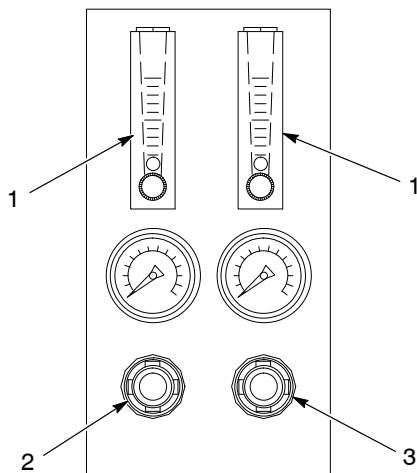

Figure 3-4 Sieve Air Pressure Regulators and Flowmeters
1. See Figure 3-4. If your system uses a rotary sieve equipped with a pneumatic panel set the bearing-air pressure regulator (3) and flowmeters (1):